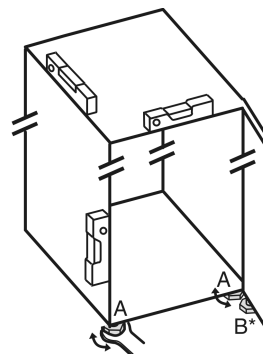

Fig. 25
- ▶ Unscrew the adjustable feet Fig. 25 (A) using the enclosed open-end spanner and a spirit level until the appliance is firmly aligned and level.
- ▶ Unscrew the adjustable foot *Fig. 25 (B)* on the swap bearing block with the enclosed open-end spanner until it rests on the floor.
- ▶ Turn the adjustable foot *Fig. 25 (B)* 90° further.